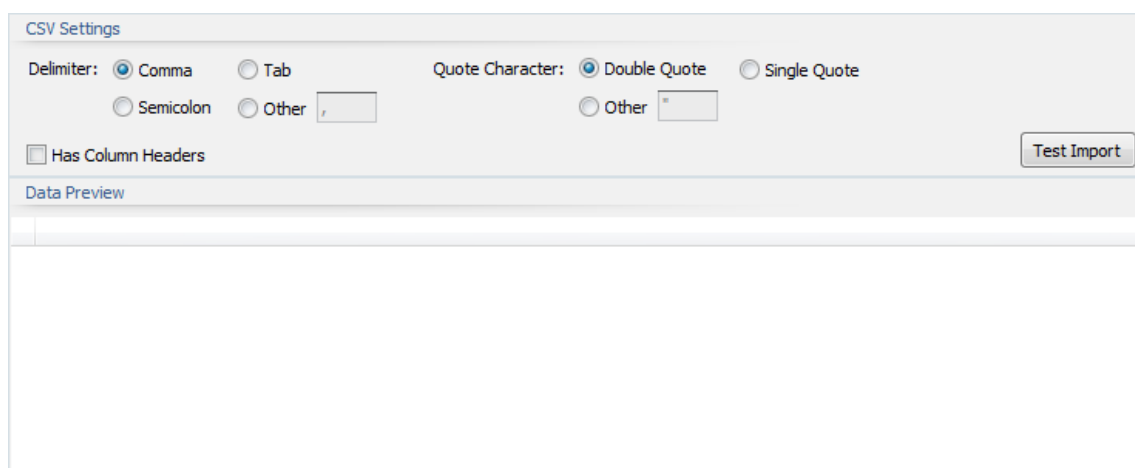

Figure 86
4. The CSV settings dialog window will appear (Figure 86). Click **Test Import** to see if the CSV file will be imported correctly.